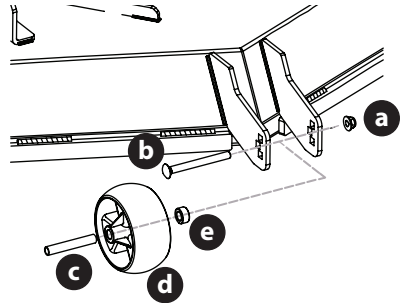

Figure 15
6. Remove the lock nut (a) securing one of the front gauge wheels to the deck. Remove the shoulder screw (b), tube spacer (c) and shoulder spacer (e) to remove the wheel (d) (Figure 15).